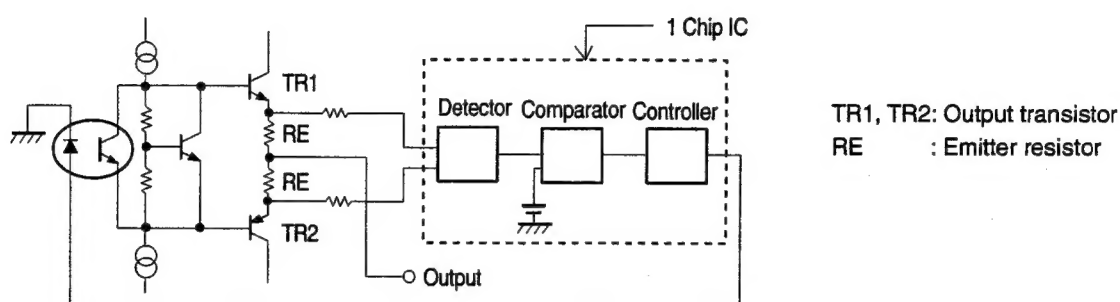

Fig. 1
As explained in Fig. 1, detects a voltage across the emitter resistors (RE) of TR1, TR2. Converts the detected voltage and comparing with the reference voltage to make the bias current value in stable state. Actually, these functions are performed by 1 chip IC.